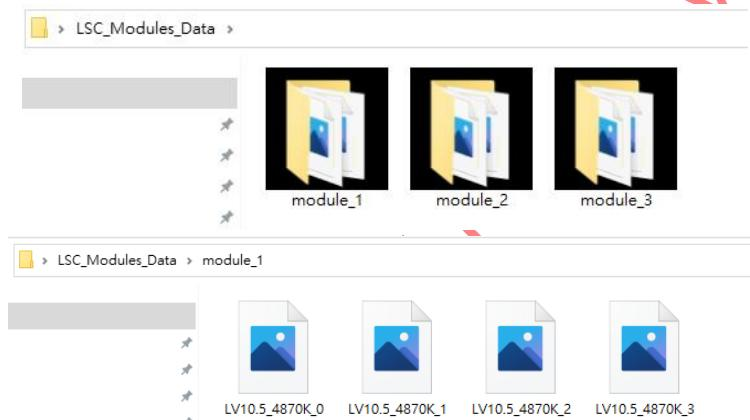

Fig 4.5 (top) creates root folders for each module, (bottom) put raw images captured by each module with index suffix naming.
**Step 3.** Create a root folder, and sub-folders containing 4 raw images of each module. The naming rules of each raw image should include the index suffix. (Fig 4.5)